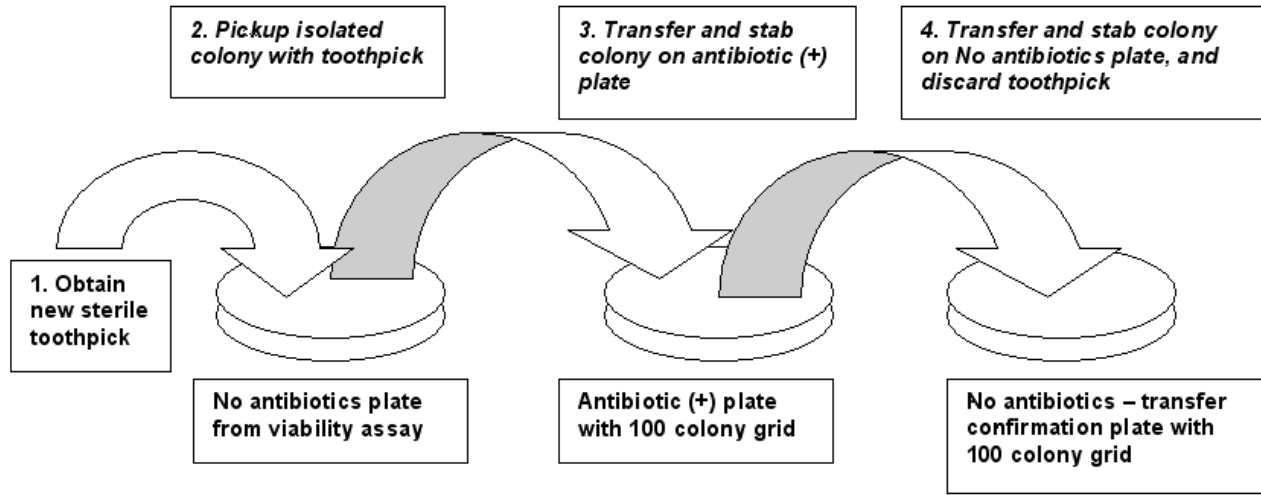

Figure 1 – Schematic of Colony Transfer Procedure
- 5.1.7 Using a fresh, sterile toothpick for each colony, pick and transfer 100 well-isolated colonies from the “without antibiotics” LB agar plates generated from **SOP 22153 - Bacterial Cell Bank Viability Assay**, to new agar plates containing the desired antibiotic. See Figure 1 as a conceptual aide.